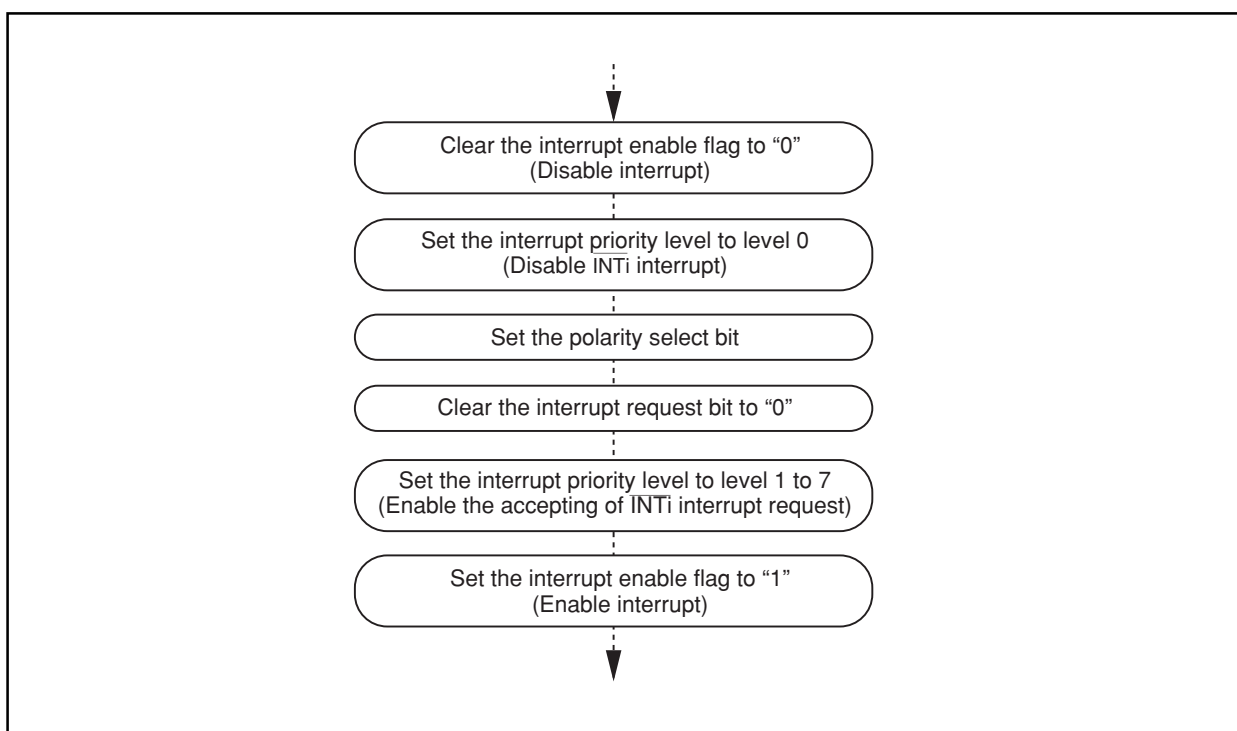

Figure 1.12.17. Switching condition of $\overline{\text{INT}}$ interrupt request
(2) Setting the stack pointer
(3) External interrupt
- When changing a polarity of pins $\overline{\text{INT}}0$ to $\overline{\text{INT}}3$, the interrupt request bit may become "1". Clear the interrupt request bit after changing the polarity. Figure 1.12.17 shows the switching condition of $\overline{\text{INT}}$ interrupt request.